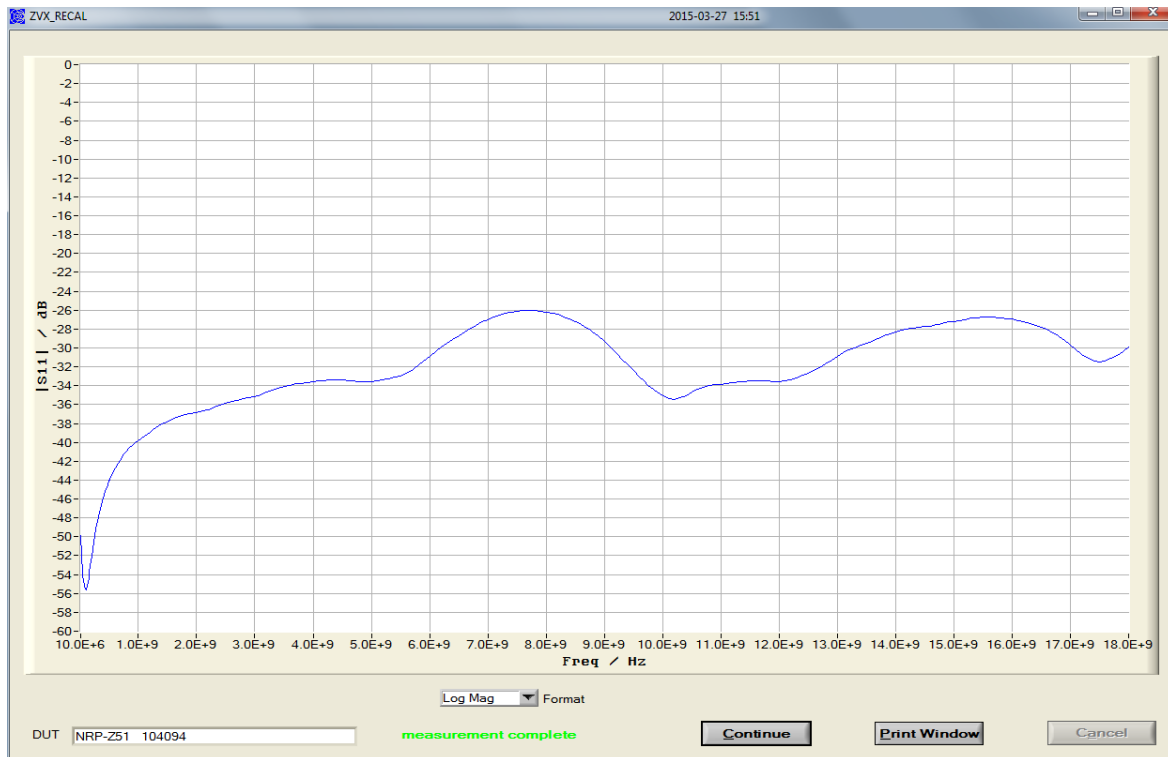

Fig. 6-9 Graphical display of the reflection measurement results
- The measurement should begin. After it is completed, the measurement result is displayed graphically (Fig. 6-9)